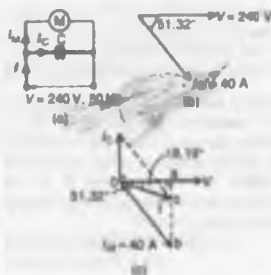

Figure 16.13
The circuit diagram is shown in Fig. 16.13(a). The phase angle between I_M and V is given by: $\phi = \cos^{-1} 0.625 = 51.32^\circ$, hence the phasor diagram is as shown in Fig. 16.13(b).
- (b) When a capacitor C is connected in parallel with the motor a current I_C flows which leads V by 90° . The phasor sum of I_M and I_C gives the supply current I , and has to be such as to change the circuit power factor to 0.95 lagging, i.e. a phase angle of $\cos^{-1} 0.95$ or 18.19° lagging, as shown in Fig. 16.13(c). The horizontal component of I_M (shown as oa)